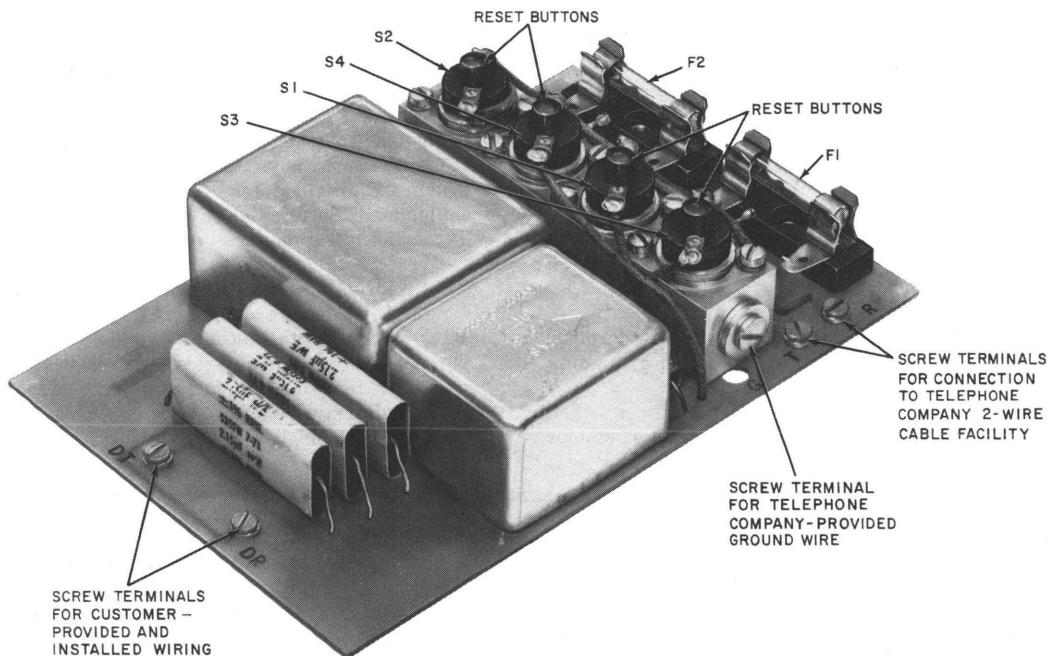

Fig. 2—FT6 Circuit Pack
(6) Connect the No. 14 station ground wire to terminal G on the metal heat sink on the FT6 circuit pack (see Fig. 2, 3, and 4). Insure that the ground wire insulation extends above the level of the circuit board. The other end of the No. 14 station ground wire must be connected to an approved grounding electrode. Attach ground warning tag 3013B (not supplied with unit).
(7) Refer to Section 460-100-201 for proper station grounding procedures.
(8) Perform tests shown in 5.04 after installing.
(9) Connect the two leads from the D station wire to terminals T and R on the printed wiring board.
on which the diodes are mounted reaches 194°F, one or more of the thermal switches S1, S2, S3, or S4, which are mounted on the same heat sink, will function to open the circuit. Therefore, the IU circuit has the capability to limit the voltage from the CP equipment indefinitely. The reset buttons located on the top of the thermal switch body (see Fig. 2) must be depressed to restore the circuit to normal after the thermal switches have operated. The reset buttons will not restore the circuit to normal until the temperature of the heat sink drops to approximately 184°F. The snap-off cover assembly must be removed to gain access to the thermal switch reset buttons.